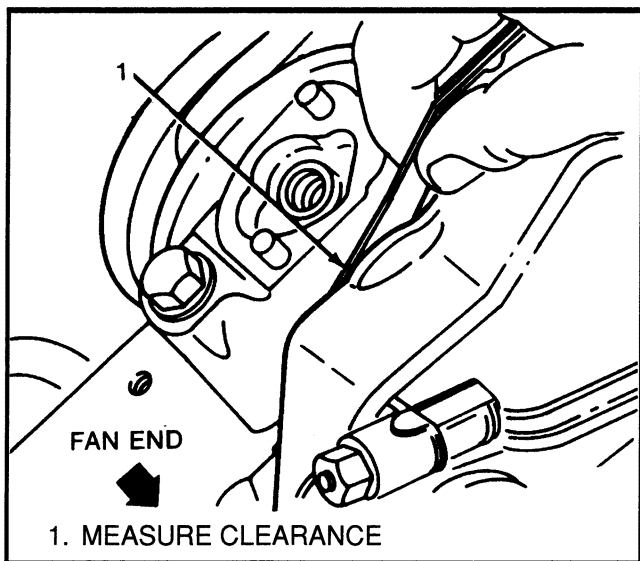

FIGURE 19. MEASURE THE AXIAL CLEARANCE OF THE CRANKSHAFT
10. Check the axial clearance between the rear main bearing and the thrust surface. Push the crankshaft forward. See FIGURE 19. Measure the clearance between the crankshaft and the thrust surface of the rear bearing. The correct clearance is 0.05 to 0.15 mm (0.002 to 0.006 inch).
3. Install the bearing caps. Make sure the arrows on the bearing caps are towards the front (fan end) of the engine. Push the crankshaft forward and measure the clearance at the front side of the rear main bearing. The correct clearance is 0.05–0.15 mm (0.002–0.006 in). (See FIGURE 19.)